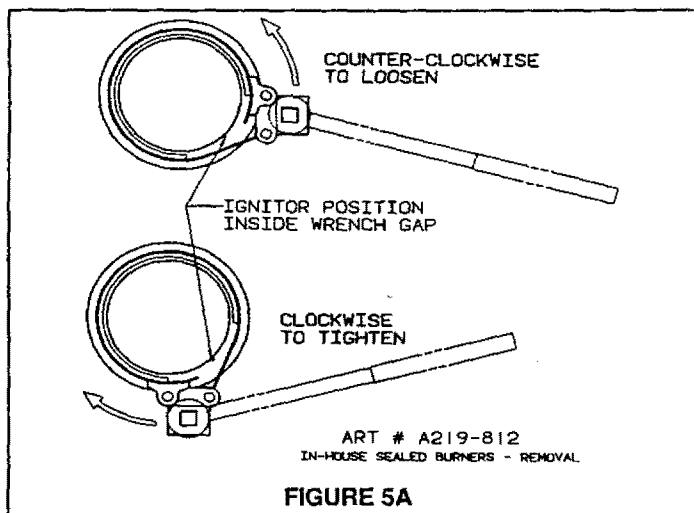
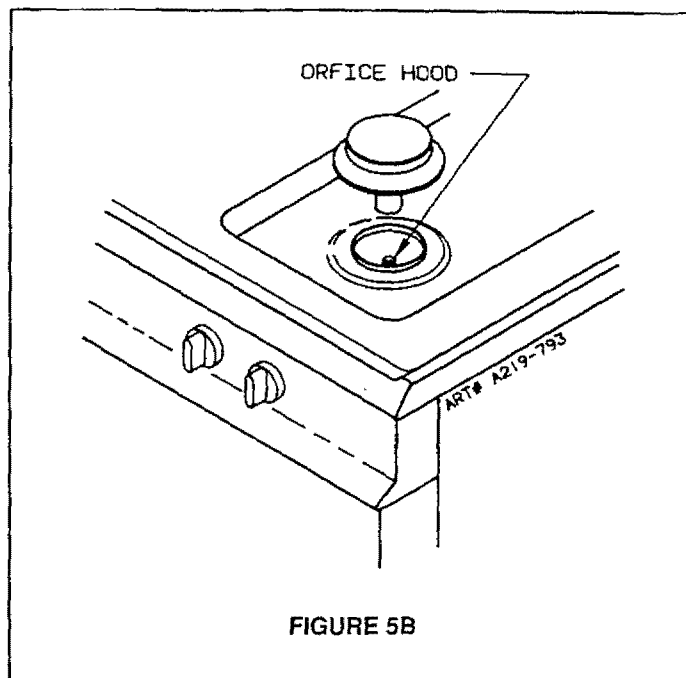

FIGURE 5A
FIGURE 5B
If it should be necessary to check the manifold gas pressure, remove right rear burner assembly by placing burner wrench (part no. 8002P026-60, available from your dealer or authorized service agency*) over surface burner assembly with ignitor positioned inside gap in wrench ring (figure 5A). This prevents ignitor from being crushed when wrench tightens on burner assembly. Rotate burner assembly approximately one-eighth turn counter-clockwise and lift from main top (figure 5B). Connect manometer (water gauge) or other pressure device to the top burner right rear orifice hood, using a rubber hose with inside diameter of approximately 1/4" inch, hold tubing down tight over orifice hood. Turn burner valve on. For an accurate pressure check have at least two (2) other top burners burning. Be sure the gas supply (inlet) pressure is at least one inch (1") above specified range manifold pressure. The gas supply pressure should never be over 14 inches water column. When properly adjusted for Natural Gas the water column pressure is 4", for LP Gas the water column pressure is 10". Replace burner assembly in main top and rotate approximately one-eighth turn clockwise using burner wrench until burner locks into position with ignitor facing rearward.